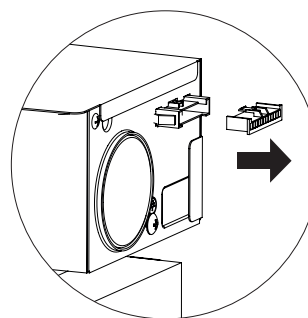

Figure 2
5. Disconnect the connector between the front grille and control box. (See Figure 2)